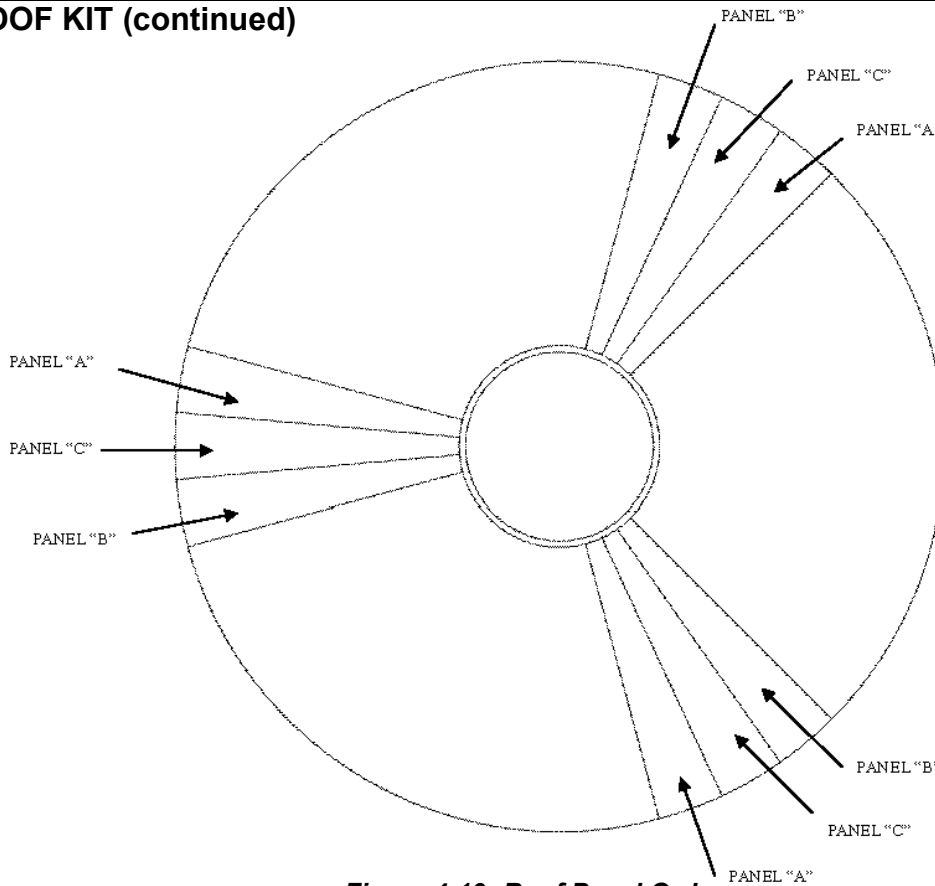

Figure 4-19: Roof Panel Order
1. Panel "A" roof sheets should be started at 3 equal locations around collar. See Fig. 4-19.